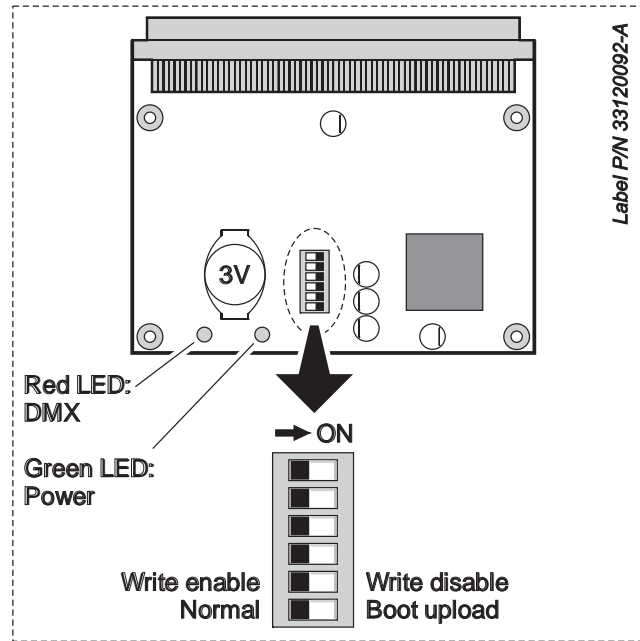

Figure 21: Main PCB and DIP-switch
3. See Figure 21. Locate the 6-pin DIP-switch on the PCB and move pin 6 to **ON** (boot mode upload enable).
The 3-volt battery on the main PCB (marked **3V** in Figure 21) will eventually need to be replaced. When the battery has reached the end of its life it will no longer power the onboard clock, and *RCER* (real-time clock error) will appear in the display. Contact Martin service for a replacement battery.